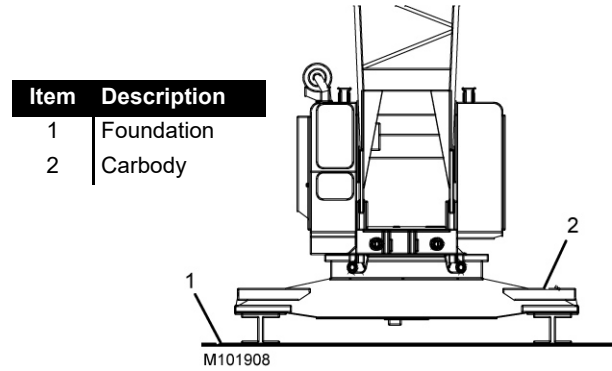

Figure 2-6. Carbody-Mounted Crane
2. Crane rotating bed mounted on a carbody (crawlers removed) which is securely fastened to the foundation (Figure 2-6).